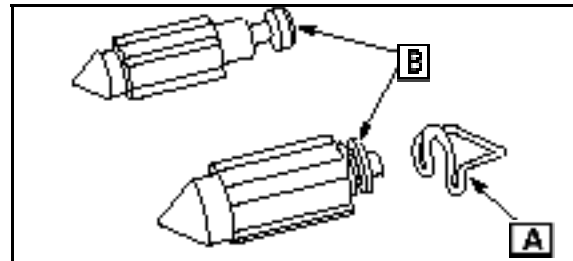

Fig. 44
15. Install spring (A) to groove in fuel needle valve ([B] Fig. 44).